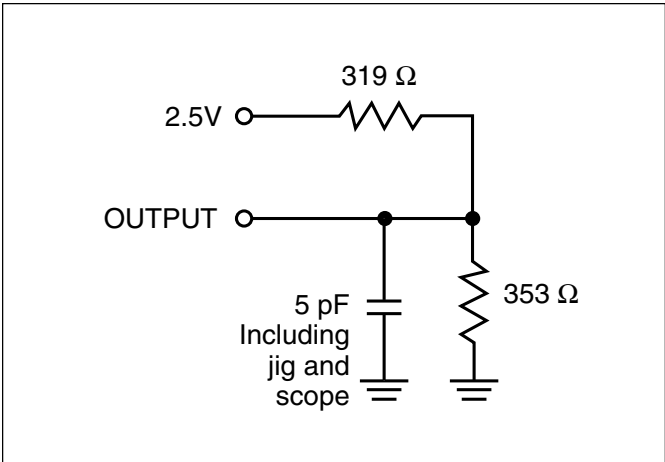

Figure 1b.
2. Tested with the loading specified in Figure 1b. Transition is measured  $\pm 500$  mV from steady-state voltage. Not 100% tested.